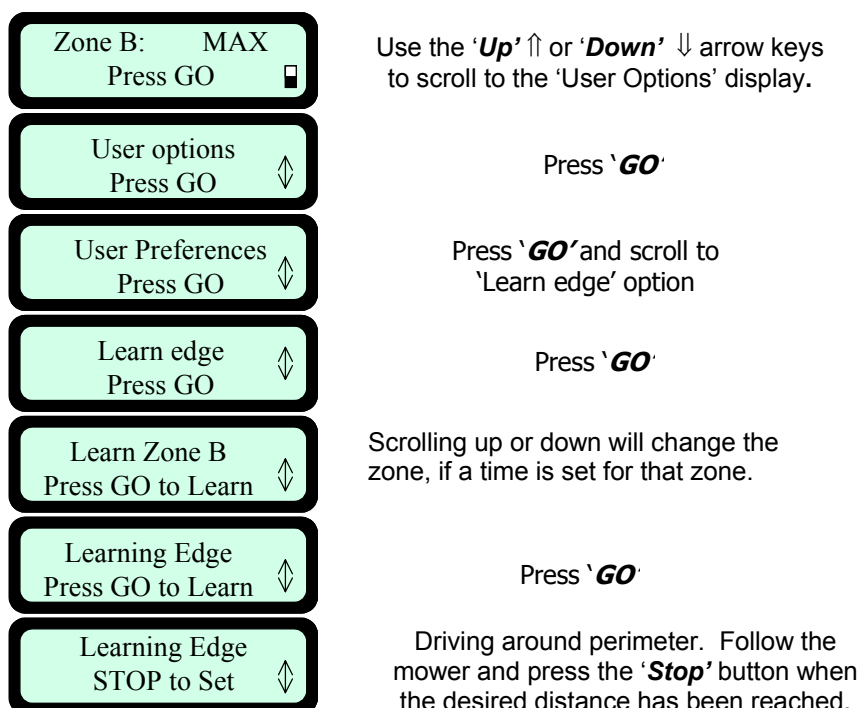

Figure 6.5
This menu option is used in **non-docking zone** only. The default distance for edge mowing is approximately 1.5 to 2 rounds around the perimeter. This feature allows the user to learn a specific distance in each operating zone in order to cause the mower to cut the edge a specific distance, such as one full round. It will remain as a learned distance until the edge is re-learned or the factory default edge is selected. It should be done when the Manual Controller is in the holder and flush with the mower top. 'Learn Edge' gives you the ability to have the Robomow learn the distance around the edge. Figure 6.5.
- Follow the steps described in Figure 6.5 to begin the process